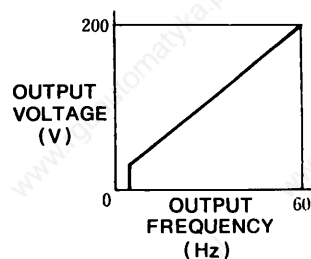

Fig 3 Example of V/f Pattern
- (1) Base drive circuit: Drives the transistors in the inverter circuit.
- (2) Sine wave PWM control circuit: Calculates the pulse width every time a reference signal is received from the V/f control circuit, and outputs a PWM signal approximating a sine wave.
- (3) V/f selector circuit: Selects V/f pattern from 15 types of built-in voltage/frequency (V/f) patterns (Fig. 3).